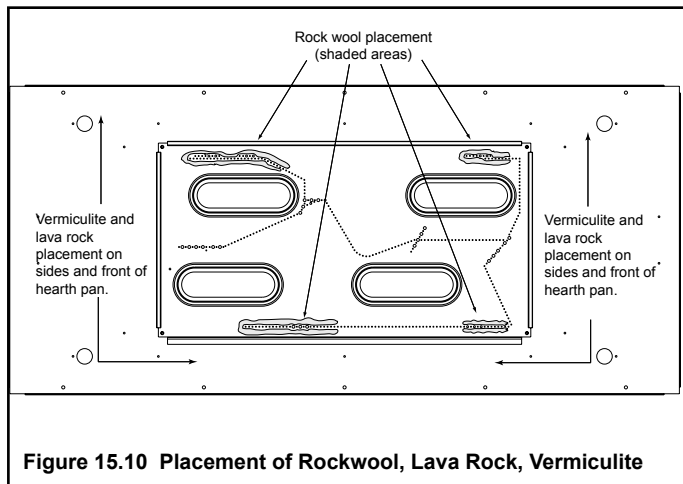

Figure 15.10 Placement of Rockwool, Lava Rock, Vermiculite
- Refer to Figure 15.10.
- Place lava rock and vermiculite in the areas shown in Figure 15.10.